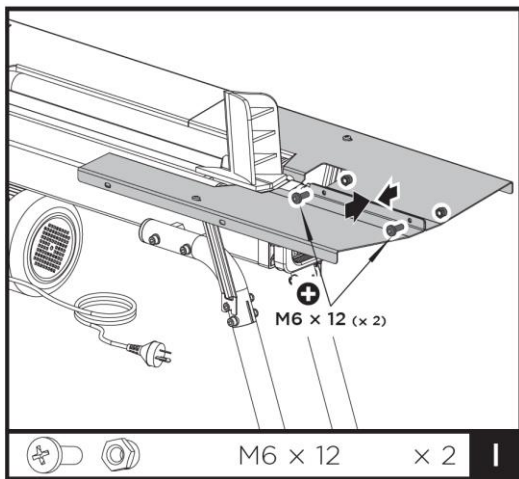

Fig. 9
7. Connect log tray 1 (f) and log tray 2 (g) using two M6×12 screws and locknuts (I). See Fig. 9.